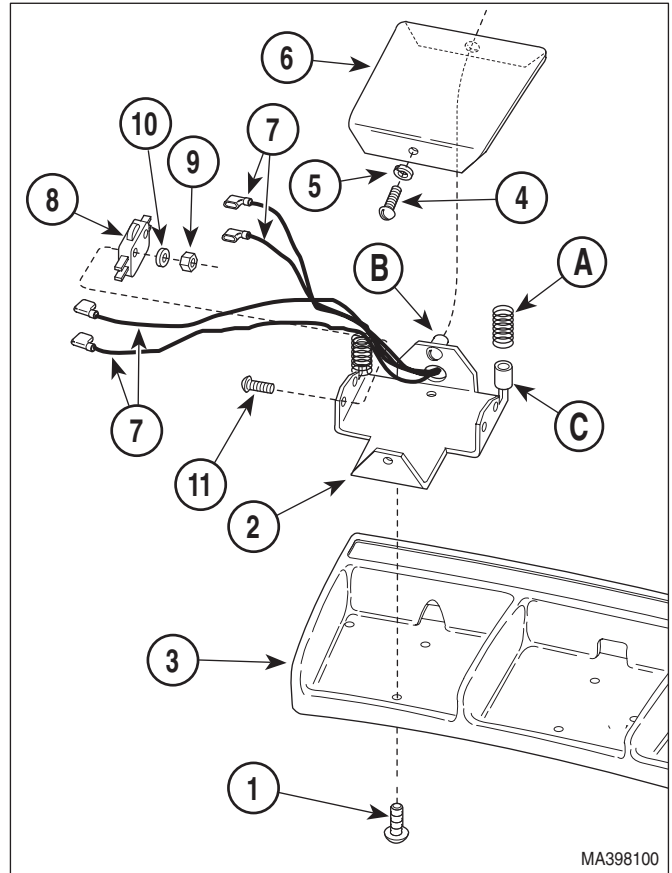

Figure 4-33. Typical Foot Switch Removal / Installation
- (1) Unplug table power cord from outlet.
- (2) Remove two screws (1, Figure 4-33) and partially separate foot switch bracket (2) from foot control casting (3).
- (3) Remove screw (4), spacer (5), and pedal (6) from foot switch bracket (2).
- (4) Tag and disconnect four wires (7) from terminals of foot switch (8).
- (5) Remove two nuts (9), washers (10), screws (11), and foot switch (8) from foot switch bracket (2).